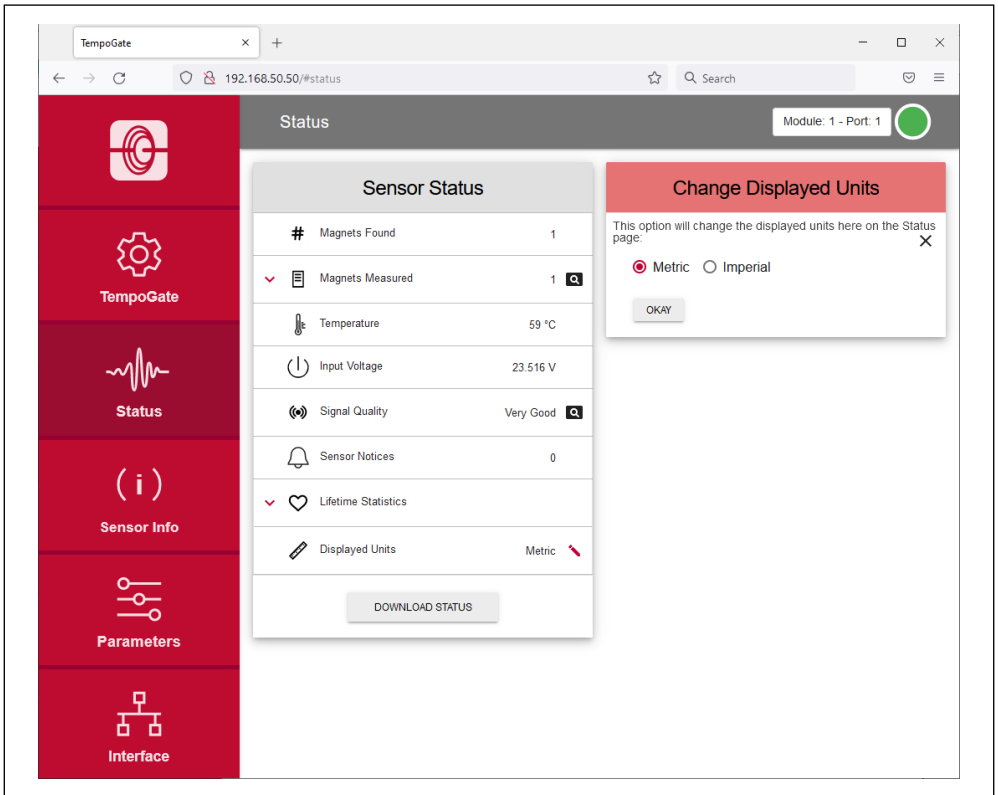

Fig. 37: Changing the display units
- **Displayed Units:** You can change the units of the displayed values from metric units to imperial units. To do this, click on the black pencil in this line. The "Change Display Units" window opens. Select the desired unit and confirm by clicking OK (Fig. 37).